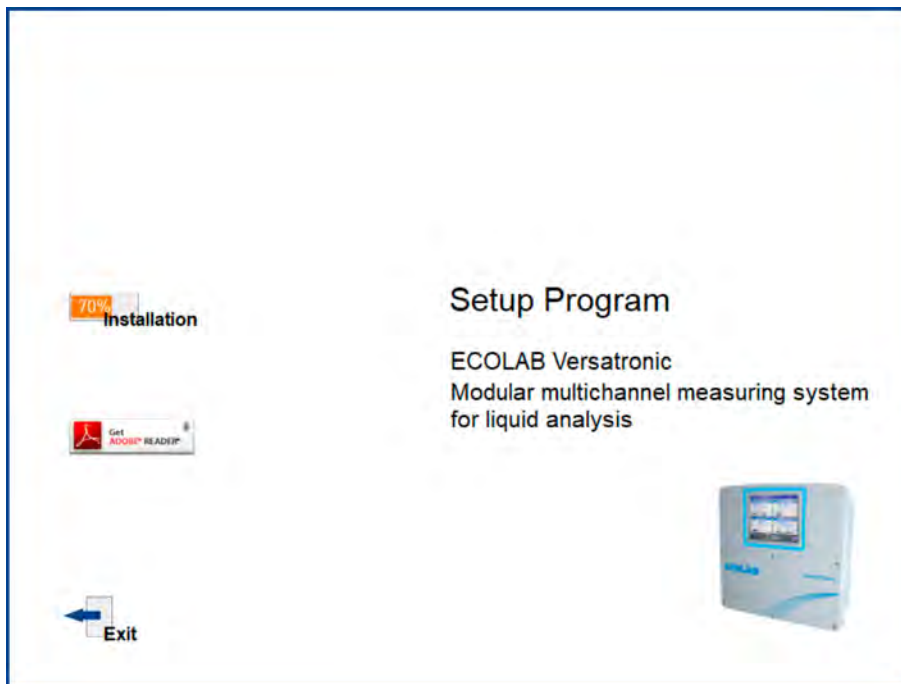

Fig. 100: Start screen setup program
4. Read and accept the license agreement. Accept the agreement is a prerequisite that can be install the software. (See Fig. 100 .)